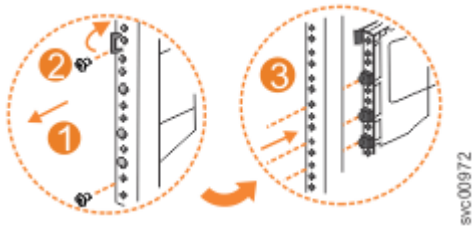

Figure 117. Remove the rail assembly from the front frame bracket
1. Remove the two screws that attach the outer rail section to the front bracket assembly, as shown in Figure 117 on page 167.
2. Remove the rail section by pulling it away from the front bracket, as shown in Figure 117 on page 167.